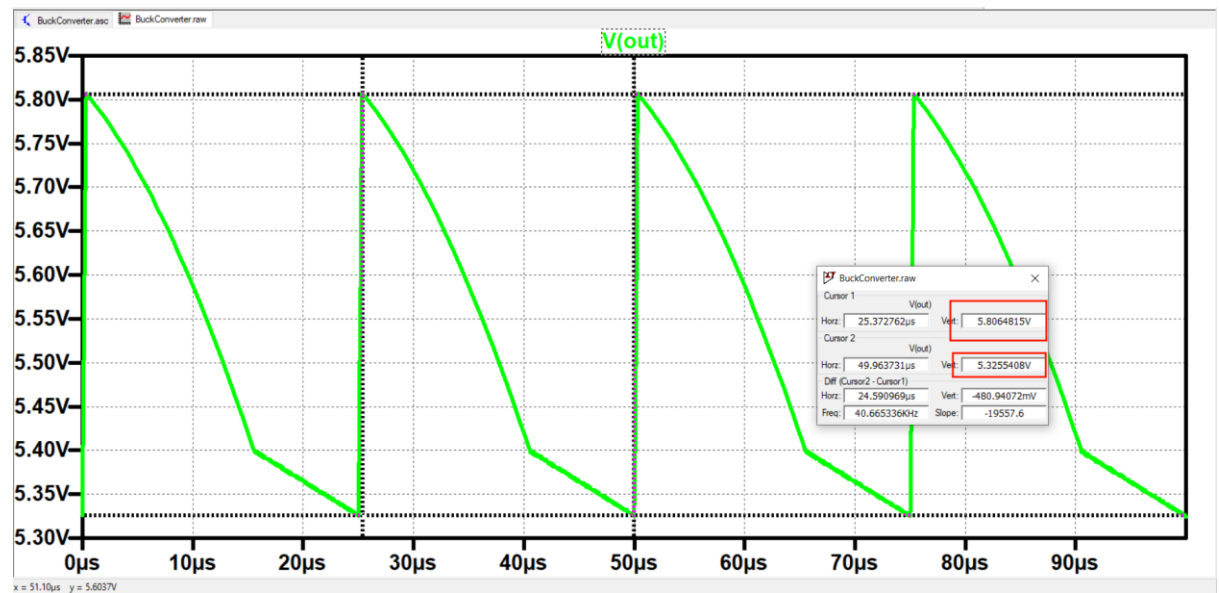

Figure 10: Simulated Output Voltage in Discontinuous Operation Mode
- g. The inductor value is changed to 30μH, and the output voltage of the converter is shown in figure 10.